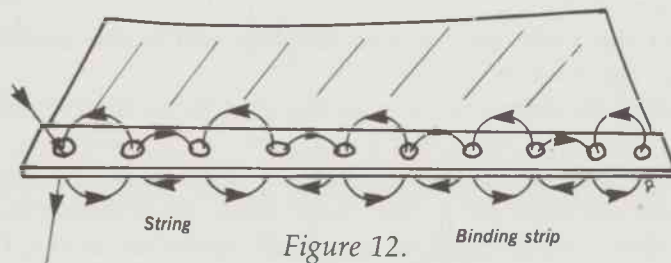

Figure 12.
- l. Reverse the direction, inserting the needle and strip through the second hole from the end, then up through the third hole. Continue across the strip until you have sewn back through the first hole (Figure 12).